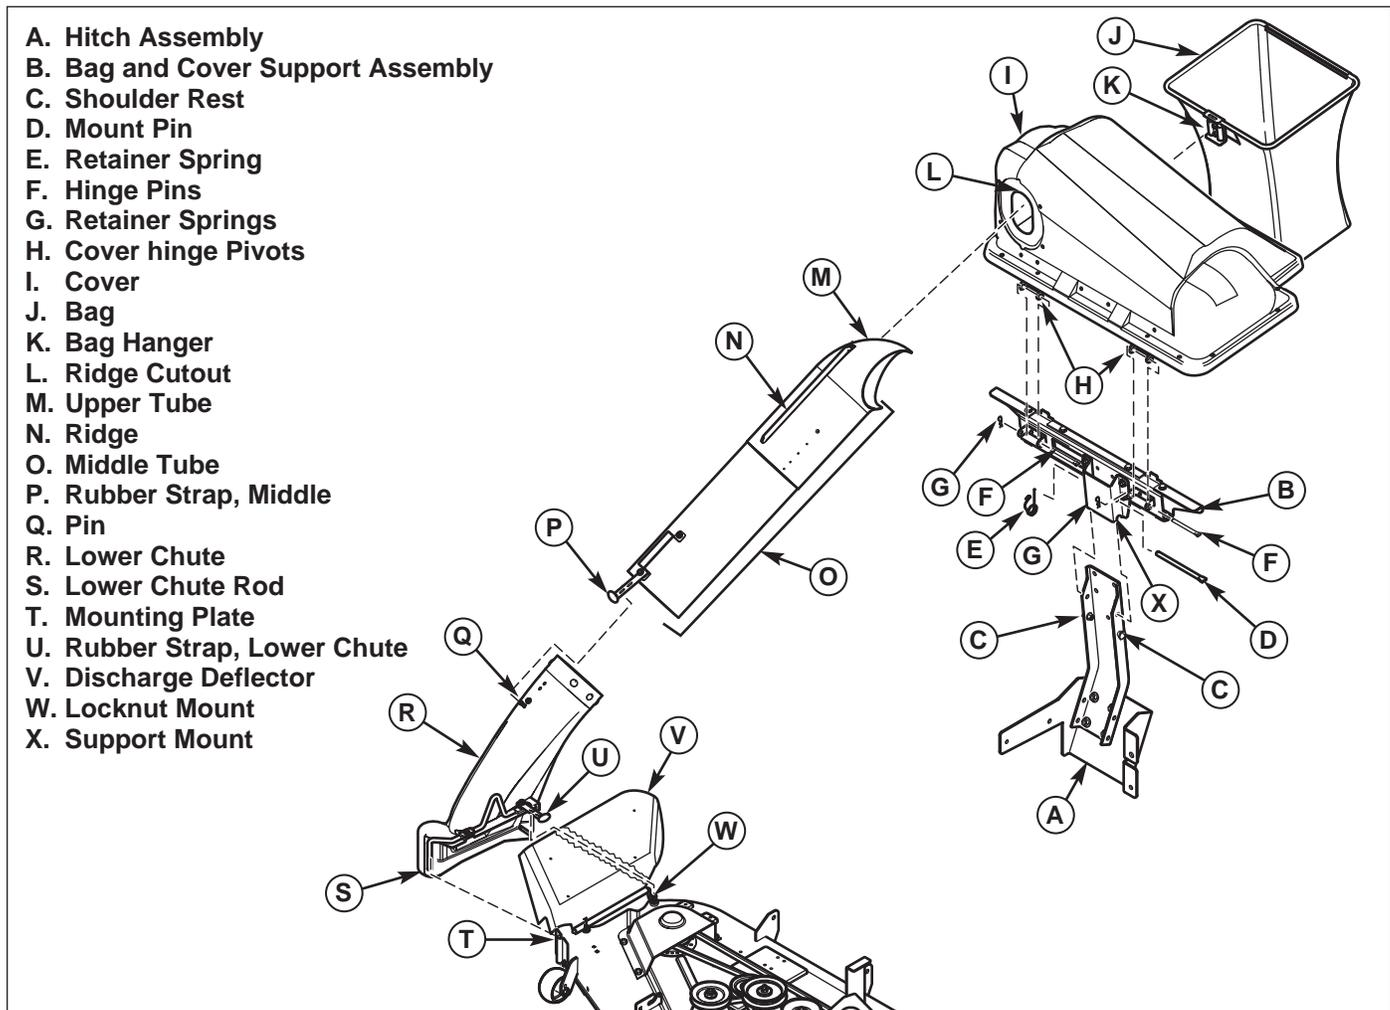

Figure 11. Normal Installation & Removal
1. Unhook rubber strap (P, Figure 11) from pin (Q), then remove tube assembly (O) from chute (R) and from cover (I).
2. Lift cover (I) and remove bags (J) from bag and cover support assembly (B).
3. Remove cover (I) by disconnecting retainer springs (G), then remove both hinge pins (F).
4. Remove bag and cover support assembly (B) from hitch assembly (A) by removing retainer spring (E), then removing mount pin (D).
5. Remove wing nut (U) from carriage bolt (W).
6. Remove knob (S) from carriage bolt (T).
7. Lift up discharge deflector (V) and remove chute (R) from carriage bolt (T and W).
**IMPORTANT:** See that discharge deflector (R) returns to the DOWN position.